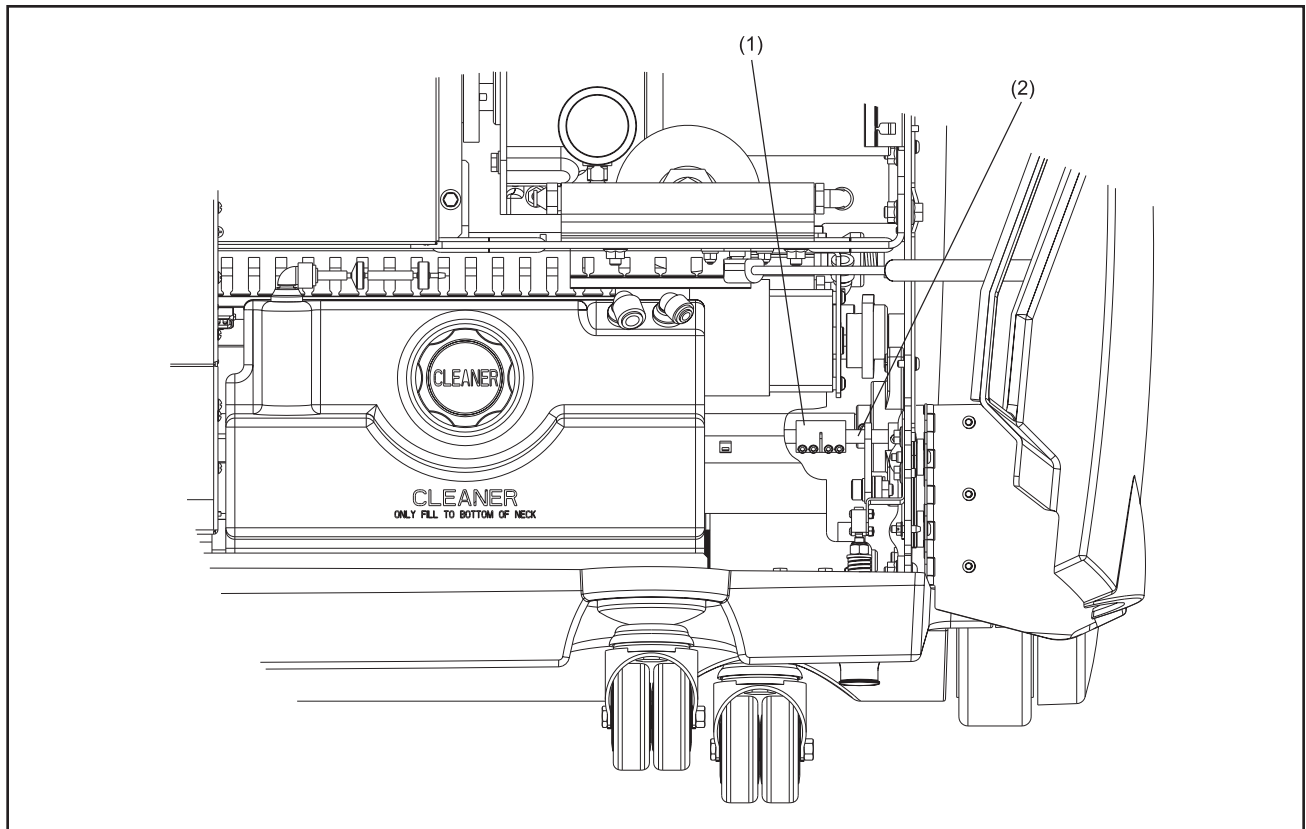

Figure 5-22. Collar
13. Locate the collar, on the 10-pin side, inside of the machine in the conditioning compartment (found directly under the dispersion roller motor) that holds the two sides of the brush lifting shaft. Refer to Figure 5-22.